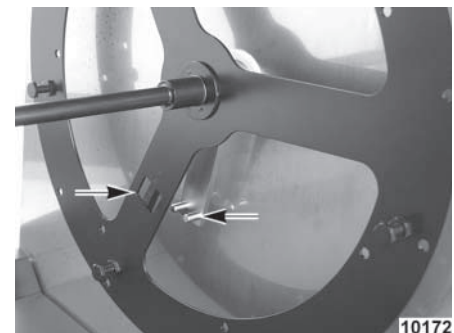

Fig. 6
STEP 4: Turn the rotor, lining up the square drive slots on the rotor end plate with the pins on the drive arm (Fig. 6).